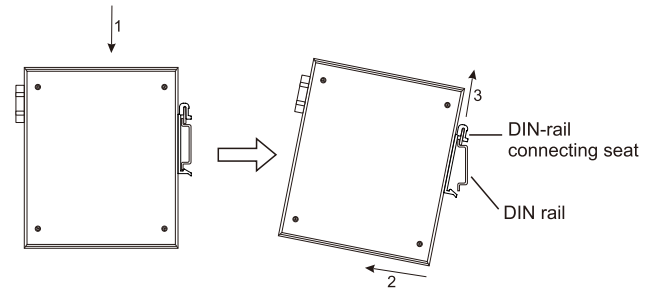

Figure 4 DIN Rail Dismounting
Step 1: As shown in figure 4, gently press the equipment from arrow 1 direction, twirl the equipment from arrow 2 direction as shown in figure 4 at the same time.